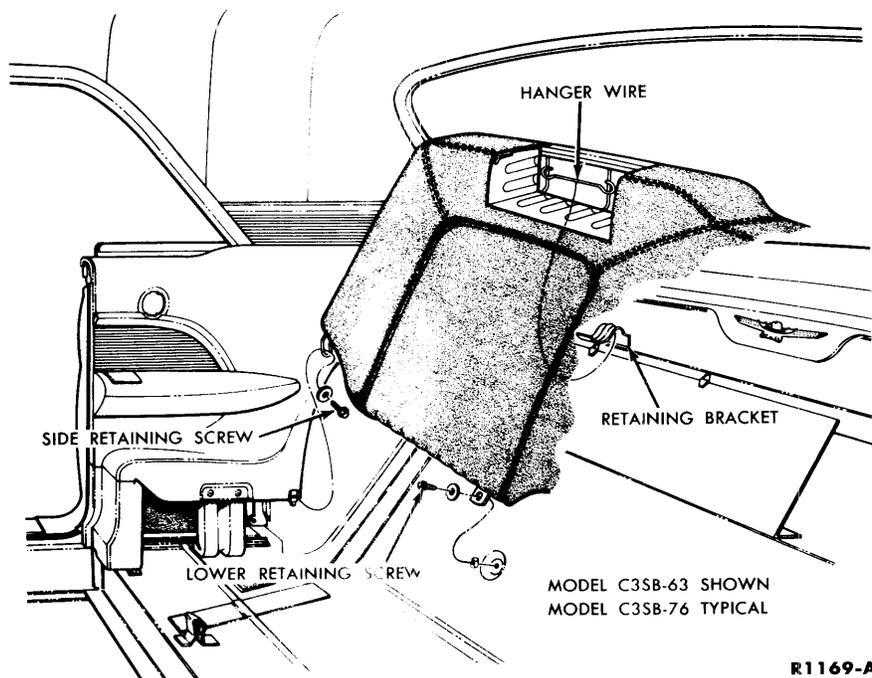

FIG. 67—Rear Seat Back Installation
first remove the rear seat cushion. Remove the 2 screws that retain the bottom edge of the rear seat back to the body (Fig. 67).
2. Remove the 2 screws that retain the side of the rear seat back to the body (Fig. 67).